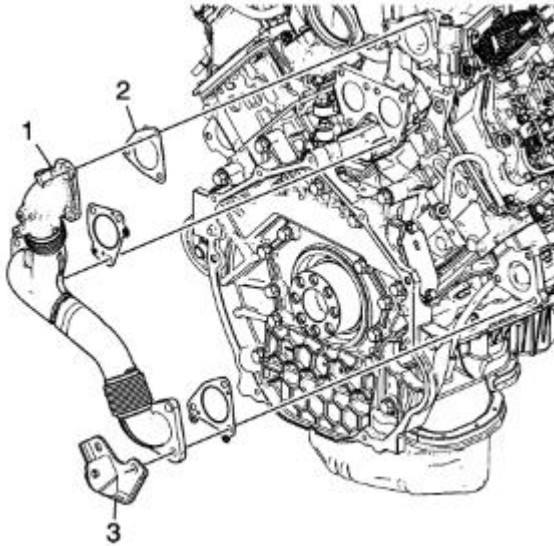
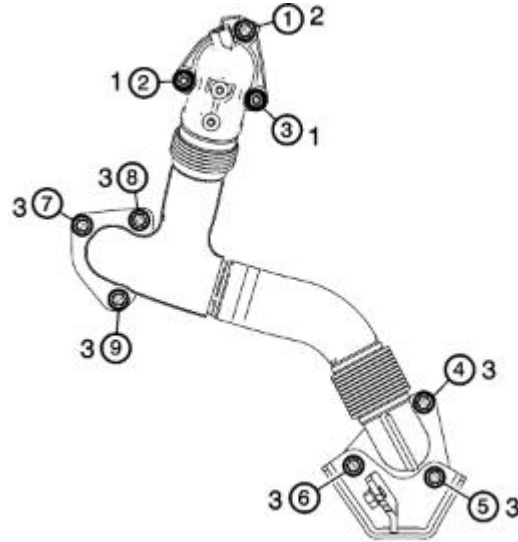

Fig. 125: Passenger side exhaust up-pipe installation
Fig. 126: Passenger side exhaust up-pipe tightening sequence
- b. Install the passenger side exhaust up-pipe. Install new gaskets and ensure that the tabs on the gaskets match the orientations shown in figure 125. On the connection to the passenger side exhaust manifold, the bolts will install through the exhaust pipe bracket (item 3 in figure 125). Torque the two bolts and one nut connecting the up-pipe to the EGR cooler to 18 ft-lb. Torque the remaining six bolts to 39 ft-lb. Reference the tightening sequence in figure 126.